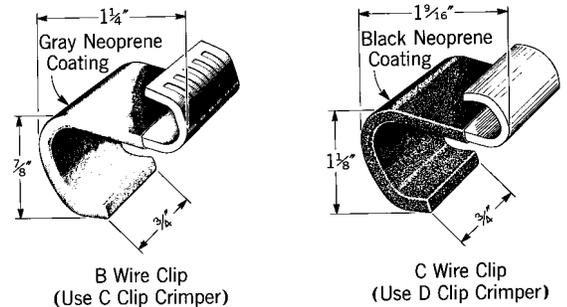

Fig. 2 - B and C Wire Clips
2.02 The C Wire Guard is held in place by either B or C Wire Clips as shown in Fig. 2 and 3. The larger opening of the clips is neoprene coated to protect the insulation of the wires. The B Wire Clip (gray neoprene coated) and the C Wire Clip (black neoprene coated) are installed with the C and D Clip Crimpers, respectively. The B Wire Clip can be used on all multiple line wires except E Rural and D Urban, and on all multiple drop wires. The C Wire Clip can be used on all multiple line wires and multiple drop wires.